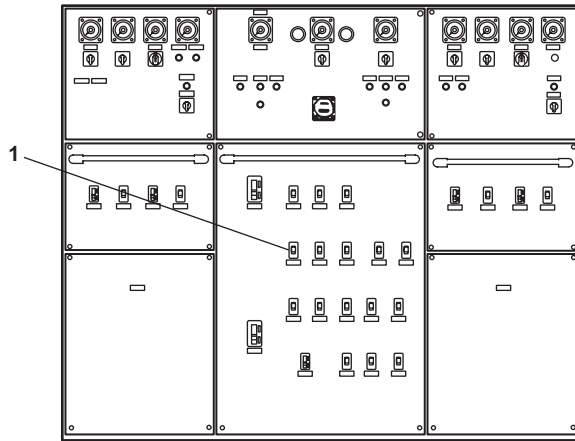

Figure 1. Main Switchboard
1. At the main switchboard in the EOS, set the BILGE PUMP NO. 2 circuit breaker (figure 1, item 1) to ON.